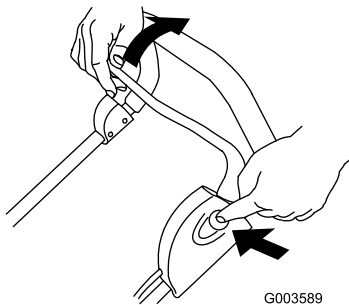

Figure 16
4. While holding in the button, pull the control bar toward the handle (Figure 16).